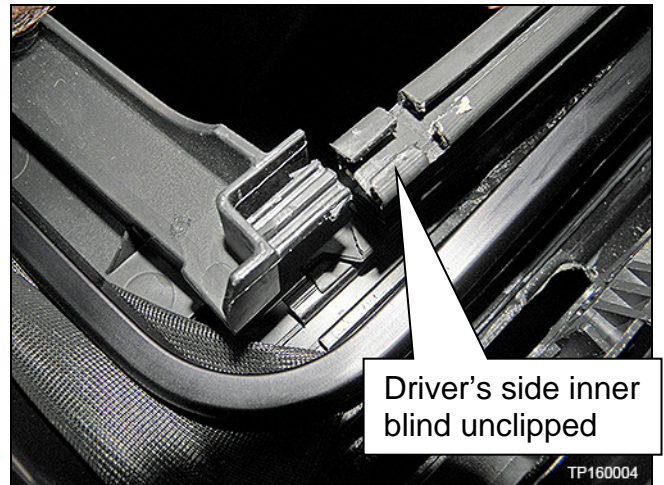

Figure 35
- Figure 35 shows inner blind unclipped.